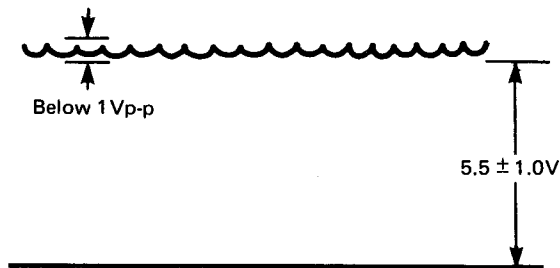

Figure 87.
2. Observe the output of TP-709 on oscilloscope (with TP-708 grounded), and check its value as shown. (Fig. 87)